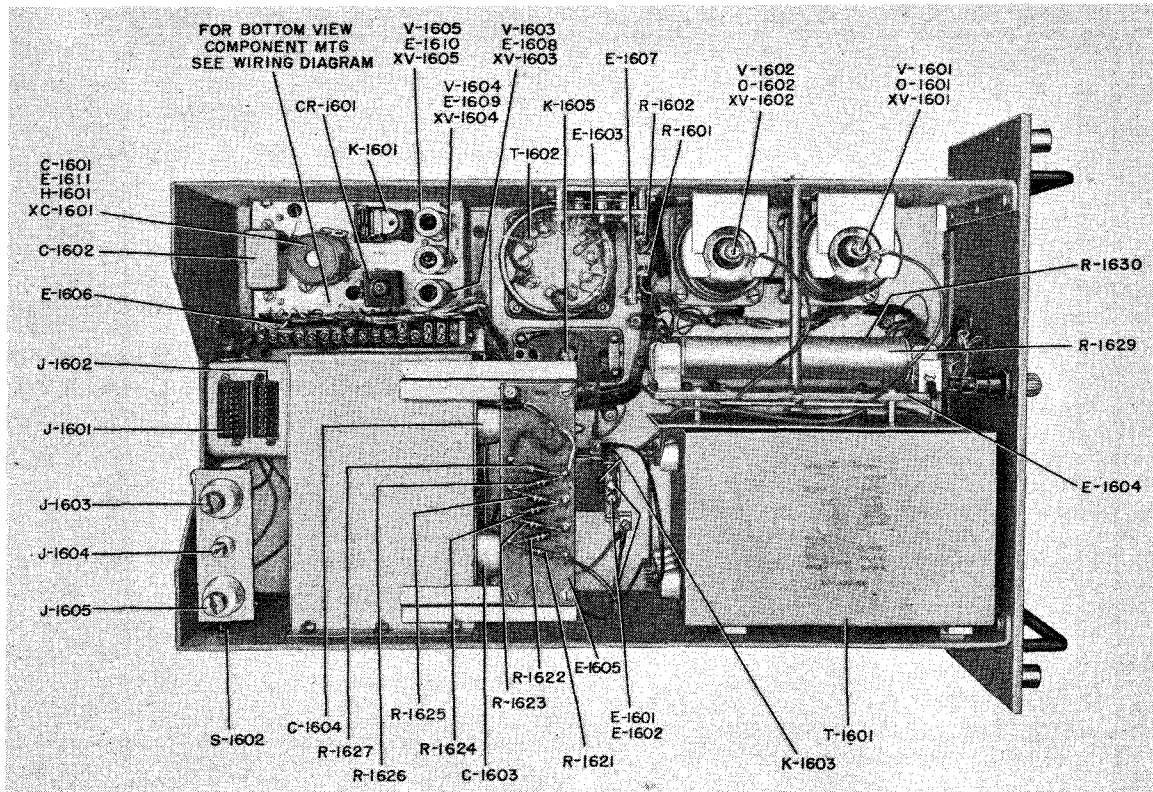

Figure 7-64. Radio Modulator MD-230/SRT (HLRM), Top View
a. TROUBLE SHOOTING.—If the carrier is not modulated in PHONE during 500-watt operation, but is modulated during 100-watt operation, the high level radio modulator (HLRM) is probably faulty. Check the 3000 V and 350 V SCREEN indicator lights. The 350 V SCREEN indicator light will go on only when the press-to-talk push button on the microphone is depressed. If the 350 V SCREEN indicator light does not go on, check connections to terminal board E-1606, relay K-1601, and associated circuit in the HLRM subunit chassis. See figures 7-64 and 7-65 for component locations. If the 3000 V indicator light does not go on, check the interconnecting high voltage cable and the high voltage source from the high voltage Power Supply PP-1096/SRT (HVPS). Check the fuses in the HVPS. (See Section 5, table 5-4.) If the TIME DELAY indicator light of the high voltage Power Supply PP-1096/SRT is on, use the VOLTMETER on the
If the bias of -50 volts is not present at the grids of V-1601 and V-1602, check the -50-volt bias supply. The bias supply consists of a selenium rectifier mounted on the HLRM subunit chassis (figure 7-64) and is connected to the grids of tubes V-1601 and V-1602 from terminal board E-1606 terminal No. 8.
All HLRM components, figure 7-64, are accessible from the top of the HLRM drawer. There are no components on the bottom of the HLRM chassis.